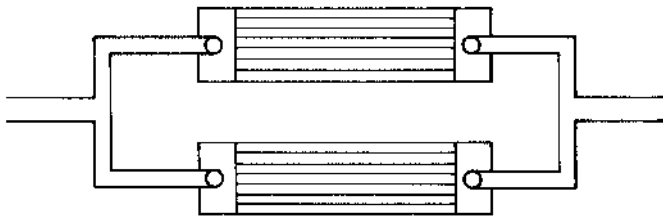

FIG. 13 Coolers connected in parallel
2.4.8 For piping diagrams for multiple cooler installations, see Figures 13 through 16.